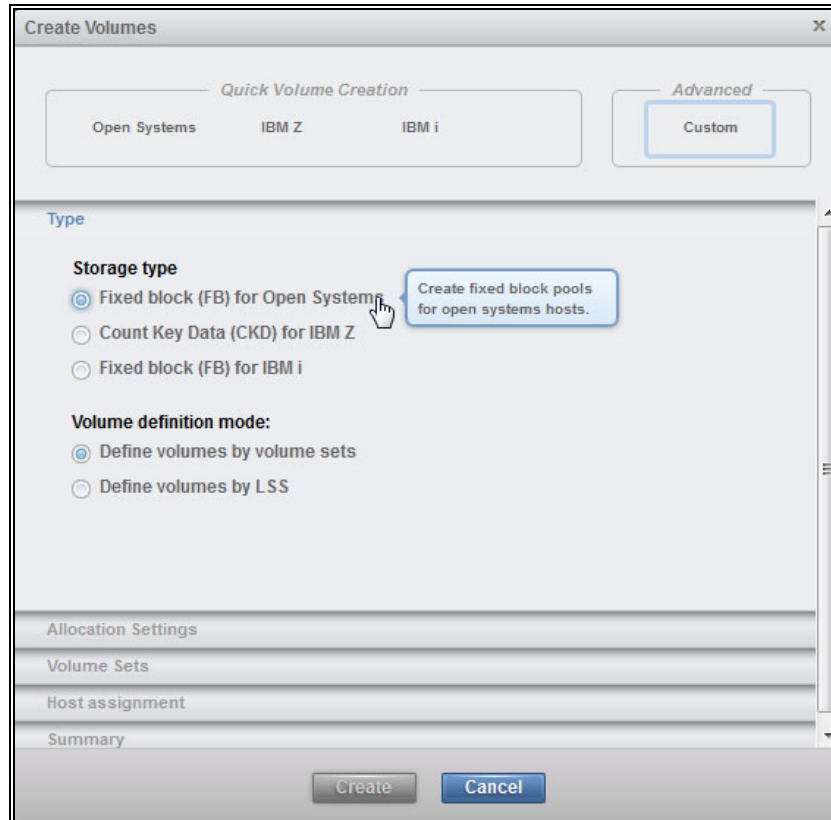

Figure 11-54 Define FB volumes by volume sets
2. The Type window appears, as shown in Figure 11-54. By default, the Storage type that is selected is **Fixed block (FB)**. For FB volume creation, two volume definition modes are available: